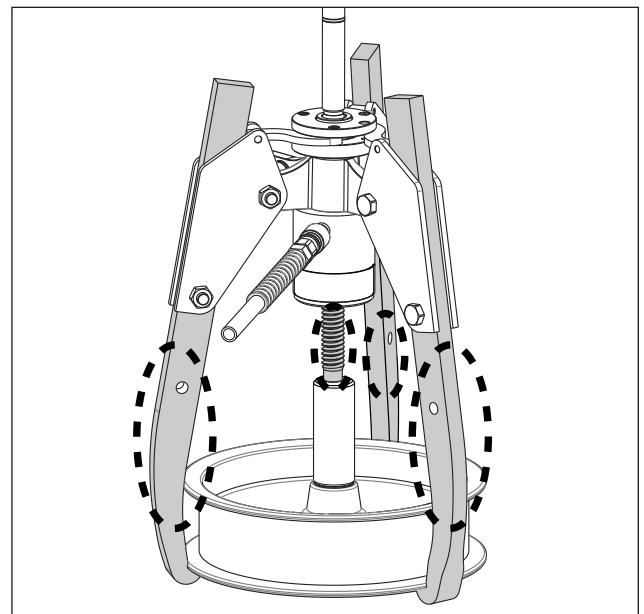

Figure 8, Checking for Deformation
- During operation, watch the puller for indications of jaw or adjusting rod deformation. See Figure 8. If any deformation is noticed, stop the pump immediately.